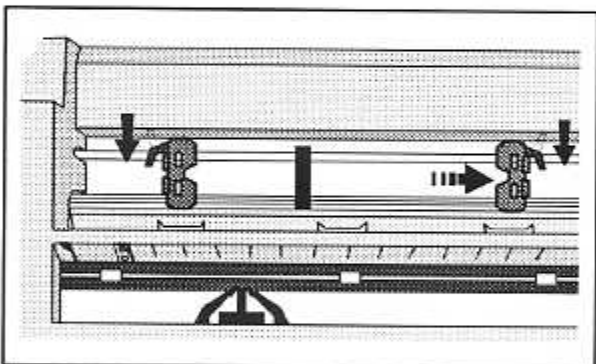

Figure 3-5. Unlocking the Tractors
3. Unlock both tractors by moving the locking levers, as shown in figure 3-5.